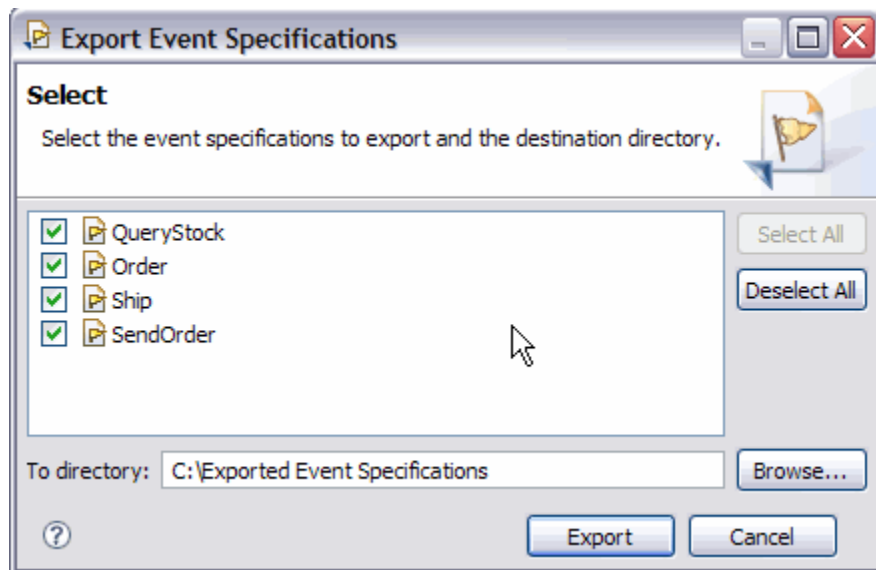

Figure 5-61 Export the ShoppingMonitorBinding specifications
6. Click **Export Event Specifications** to save the event binding outside the IBM CICS Explorer workspace (Figure 5-61).